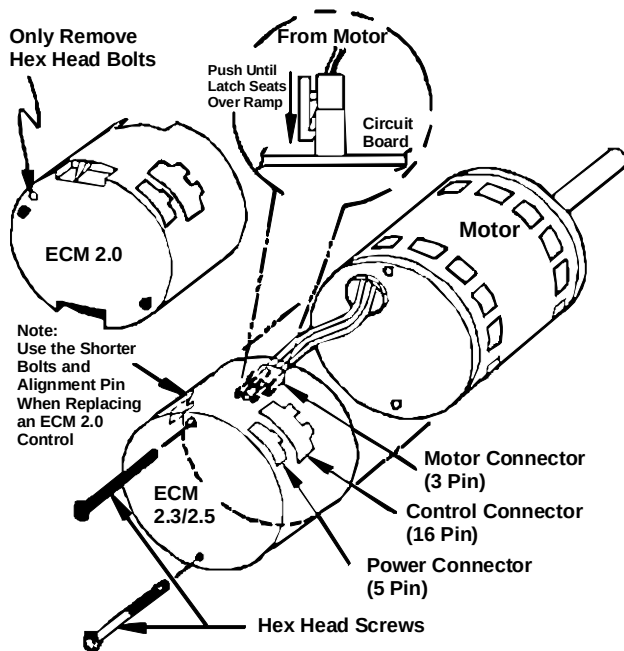

Figure 1
4. Observe the flat end of the motor control module casting and locate the two standard $\frac{1}{4}$ " hex head bolts (See Figure 1). Remove and discard these bolts from the motor while holding the control module. **DO NOT REMOVE THE TWO TORX HEAD SCREWS.**